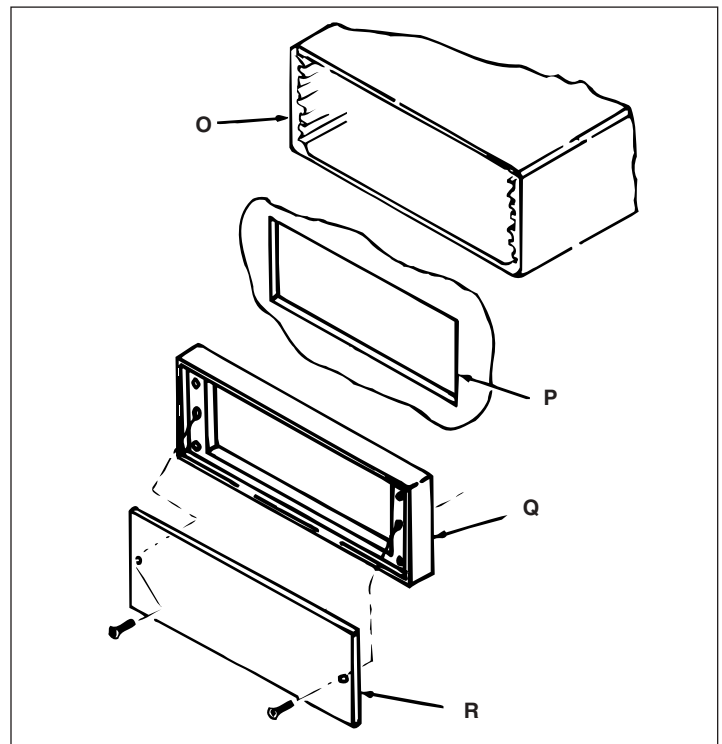

Figure 9, Mounting Gauge in a Panel
6. Position the gauge (**O**) behind the panel (**P**). Install the gauge bezel (**Q**) in front of the panel, secure with four screws. Refer to Figure 9. Maximum panel thickness is 1/8 inch. Attach the face plate (**R**) (2 screws).